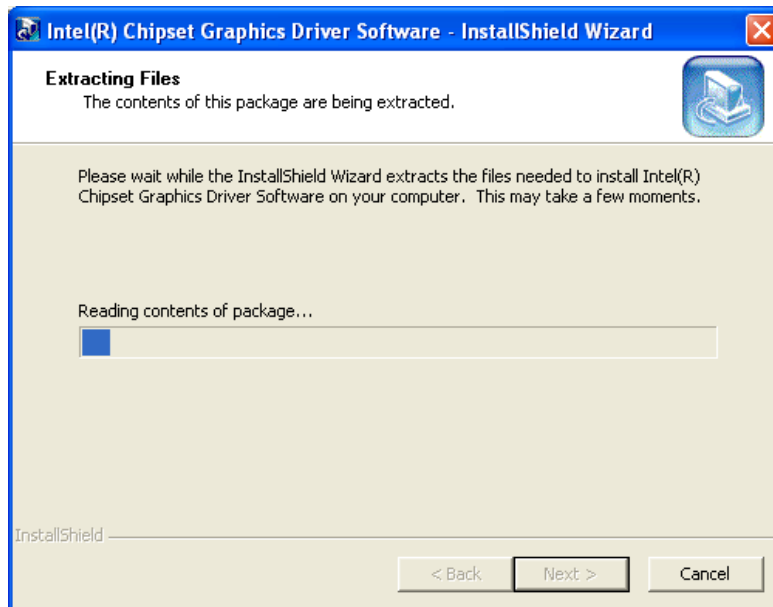

Figure 5-8: Graphics Driver Setup Files Extracted
**Step 6:** The installation files are extracted. See Figure 5-8.